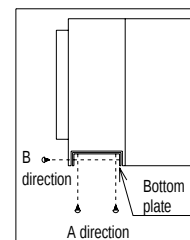

Fig.4
- Refer to [● Procedure for mounting the filter from the side (1), (2)].
- (1) Remove the bottom plate screws (refer to drawing below) on the filter box. (Fig. 4)